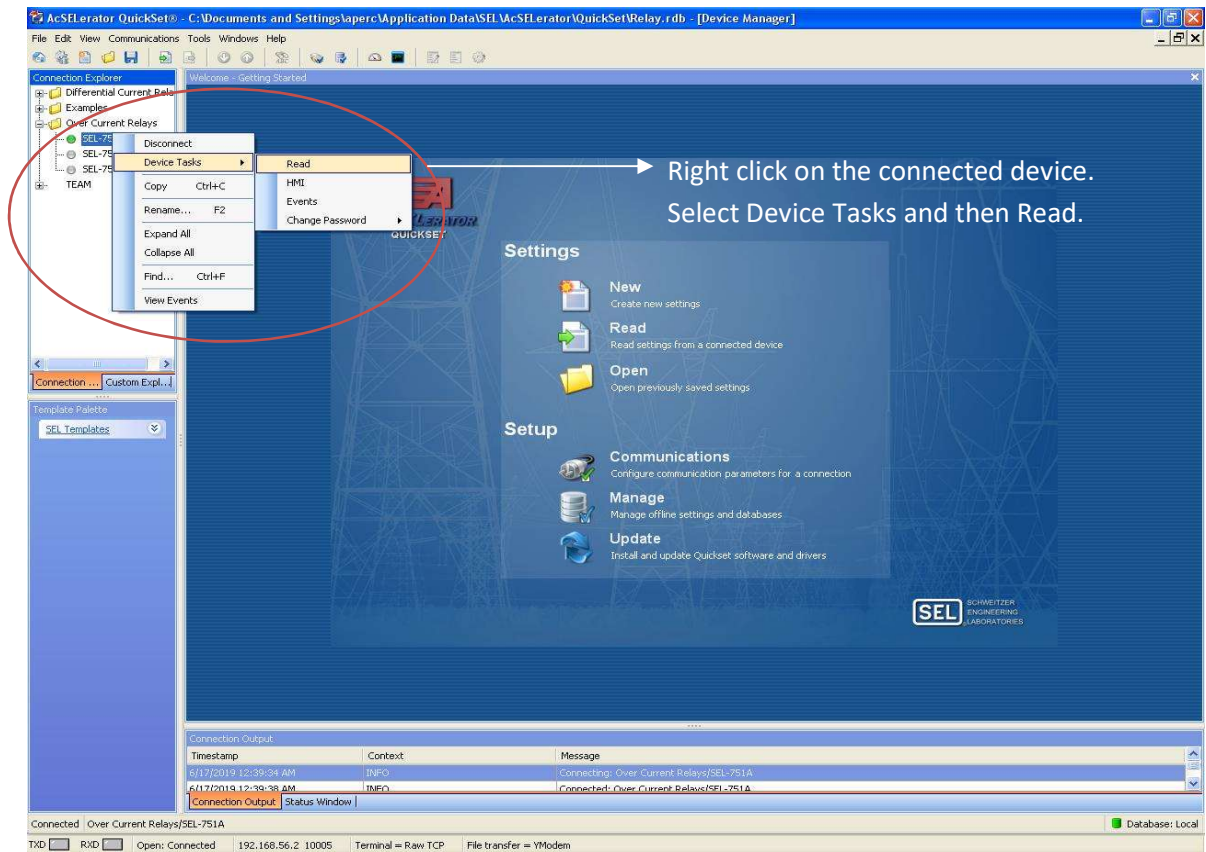

Figure 4.35 Reading device data of a relay configured in database.
- 3) If the device is connected through the database as described in section 4.4.2, then device data can also be read as shown in Figure 4.35.